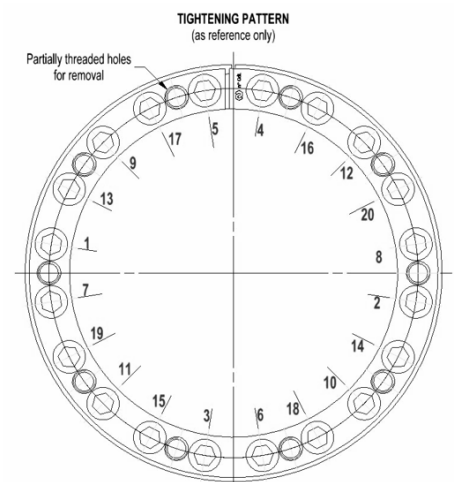

Fig. 2
5. Use a torque wrench and set it approx. 5% higher than specified tightening torque (Ma). Torque screws items [5] in a crosswise pattern, using only  $\frac{1}{4}$  turns for several passes until  $\frac{1}{4}$  turns can no longer be achieved. Start from a screw located at  $90^\circ$  approx. respect to slit; screws adjacent to slit shall be tightened in a row (see fig. 2 showing an example of tightening pattern).